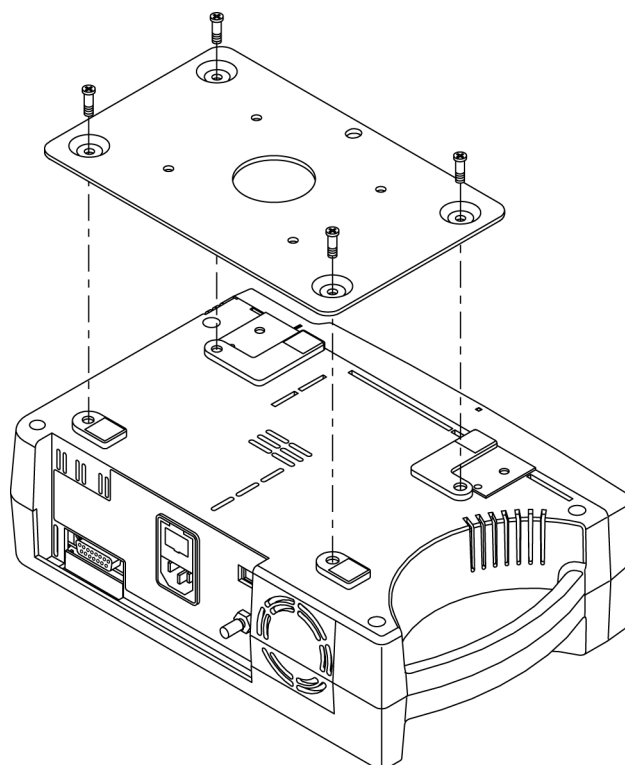

Figure 7: GCX Mounting Plate
- GCX Mounting Plate. See Figure 7 on page 121
The mounting plate attaches to the bottom of the N-600x as shown in Figure 7. For further instructions regarding connecting the mounting plate to GCX brackets, refer to the illustrated directions for use included with the GCX mounting plate.